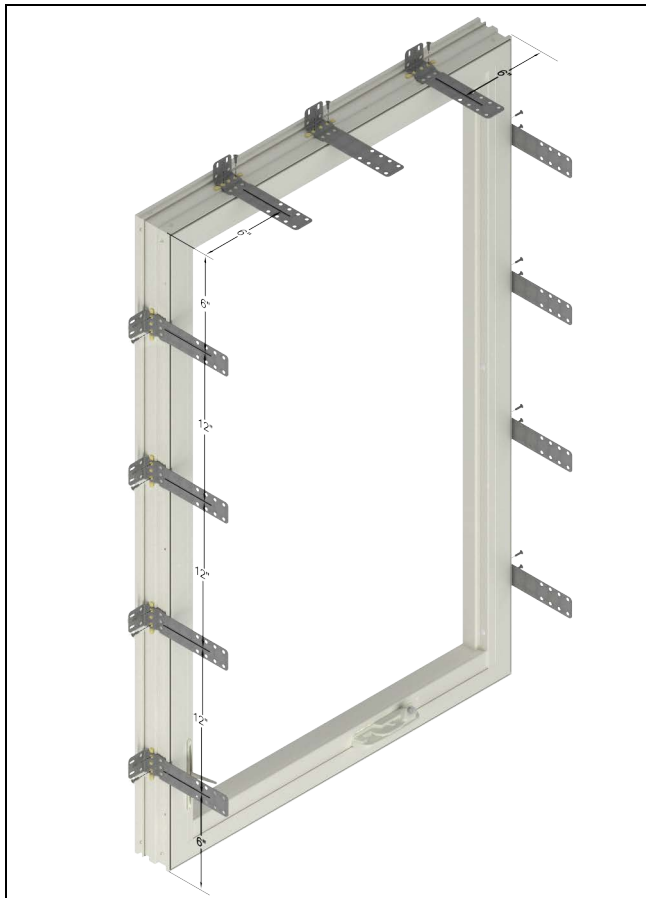
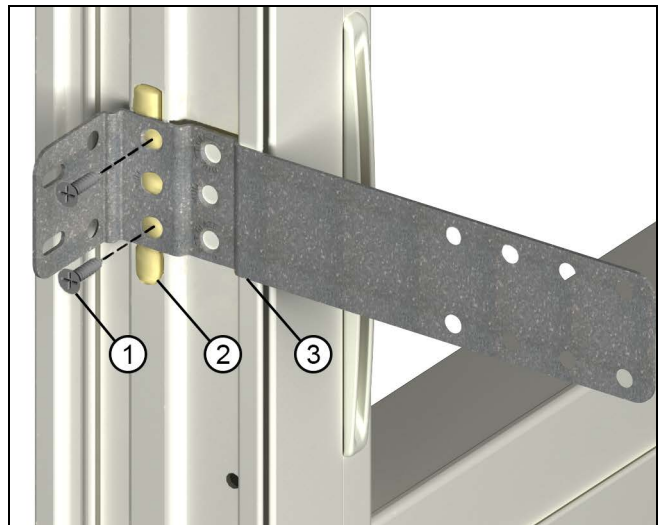
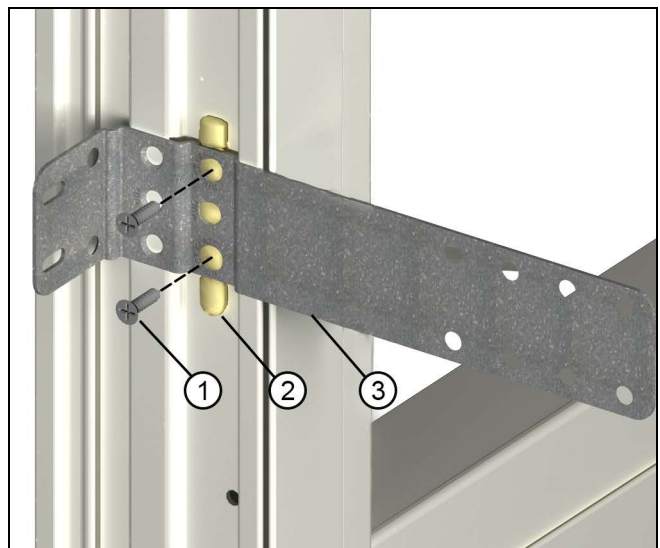

Figure 7
Figure 8 All product except Direct Glaze
Figure 9 Direct Glaze
7. If you are installing a window with structural brackets apply a 3/16" (5) diameter 1 1/2" (38) long bead of heavy duty construction adhesive in the exterior jamb channel. The adhesive is to be placed 6" (152) in from each corner and spaced 12" (305) apart along the head jamb and jambs of the unit. Press the 90-degree bent structural brackets firmly into place over the adhesive and secure with the two provided screws in the structural bracket kit. See Figure 7, Figure 8 and Figure 9.
NOTE: Screw placement is different for Direct Glaze versus all other product. The bracket is fastened to the Direct Glaze using the holes closer to the interior (markings on the bracket denote proper screw placement). See Figure 8 and Figure 9.